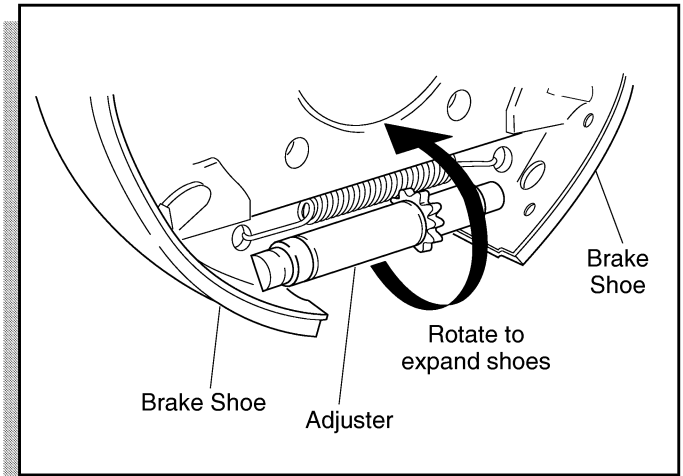

Fig. 3 Brake Shoe Adjustment
**NOTE** *If the brake drum cannot be removed, the brake shoes may need to be retracted by rotating the star wheel in the opposite direction to that shown (Ref Fig. 3 on page L-3). The star wheel is accessed through the slot in the brake drum and adjusted with a brake adjusting tool or a flat blade screwdriver. If after retracting the shoes, the brake drum still remains in place, tap brake drum with a plastic faced hammer to release it from wheel bolts.*
- b) Rotate the star wheel adjuster one full turn at a time through opening in drum until the brake shoes contact the brake drum (Ref Fig. 3 on page L-3).